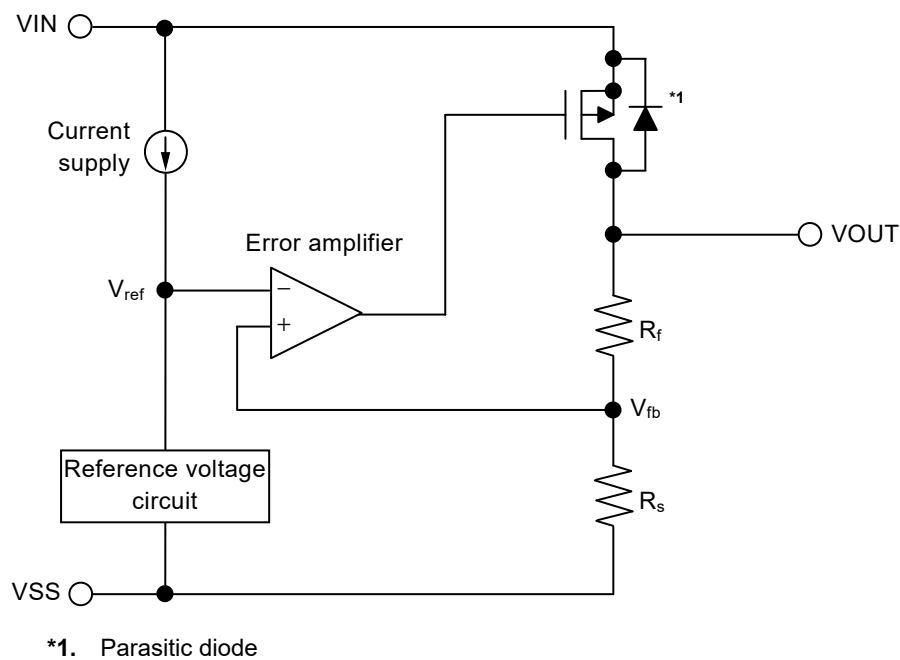

Figure 20
**Figure 20** shows the block diagram of the S-1213 Series to describe the basic operation.